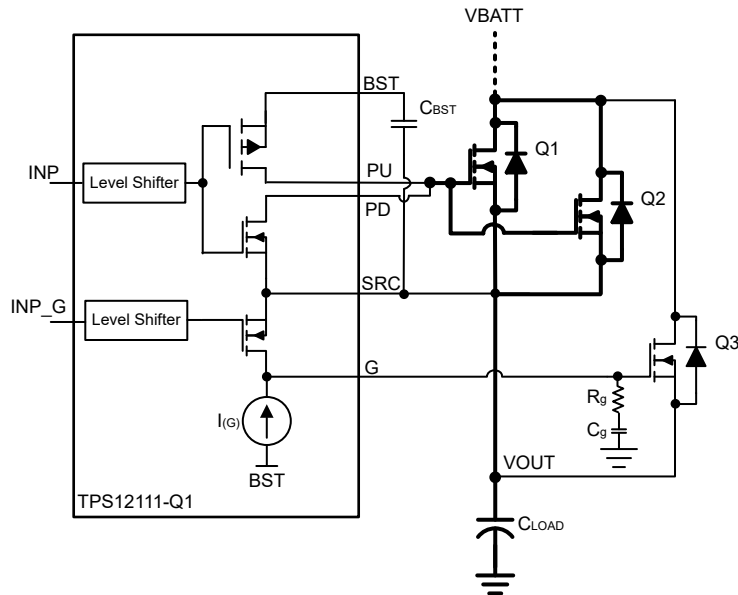

Figure 9-7. Capacitor Charging Using Gate Slew Rate Control of Precharge FET
The TPS12111-Q1 integrates precharge gate driver (G) with a dedicated control input (INP_G). This feature can be used to drive a separate FET that can be used to precharge the capacitive load. Figure 9-7 shows the precharge FET implementation for capacitive load charging using TPS12111-Q1. An external capacitor C_g reduces the gate turn-ON slew rate and controls the inrush current.